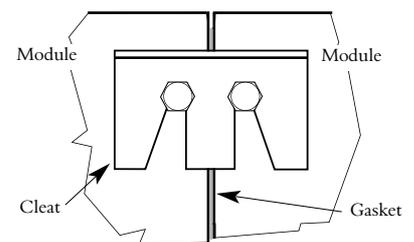

Fig. 4 Fitting a cleat
**Clamping cleats** are manufactured in heavy gauge mild steel and are designed to draw the end panels together into the correct position for gasket compression. For fitting, slacken the relevant vibration-proof bolts to show approximately 4mm of exposed thread and slide the cleat into position. A sharp blow to the folded edge will then engage the cleat. (See fig.4).